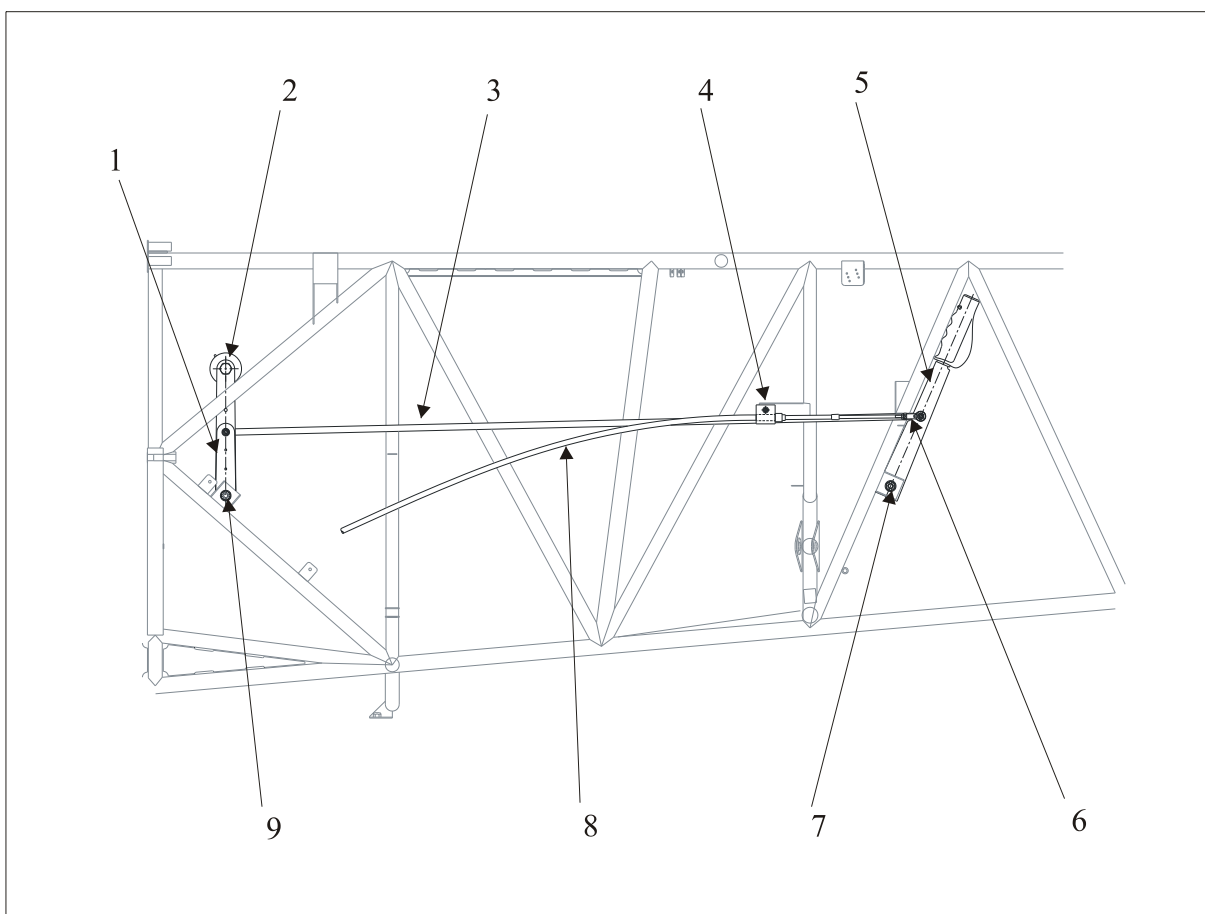

Figure 3
- 7 Remove clamp block (3) attachment bolt.
- 9 Remove cushioned clamp (4) and self-clinching plastic straps in engine compartment.
- 13 Remove cotter pin, castle nut, washers and bolt and remove the rod end (6, Figure 3) from the throttle control lever (5).
- 16 Remove clamp block (4) attachment bolt.
- 17 Remove clamp block from the throttle control cable (8).
- 4 Remove cotter pin, castle nut, washers and bolt and remove the control cable rod end (6, Figure 3) and the throttle control linkage (3) from the throttle control lever (5).
- 8 Remove throttle control lever attachment bolt (7) and remove throttle control lever. Thread the intercom switch through the throttle control lever.
- 1 Thread the intercom switch and the smoke switch wiring through the throttle control lever (5, Figure 3) before positioning it.
- 2 Tighten the throttle control lever castle nut (7) slightly. Ensure movability of levers (1 & 5).
- 1 Bring throttle control lever (5, Figure 3) in a position parallel to the adjoining fuselage structure steel tube.
- 4 Disconnect the throttle control linkage (3, Figure 3) from the front throttle control lever (1).
- 5 Disconnect the throttle control handle (2) from the front throttle control lever (1).
- 6 Remove front throttle control lever attachment bolt (9) and remove throttle control lever.
- 7 Install in reverse sequence of removal. Tighten the throttle control lever castle (9) nut slightly. Ensure movability of levers.